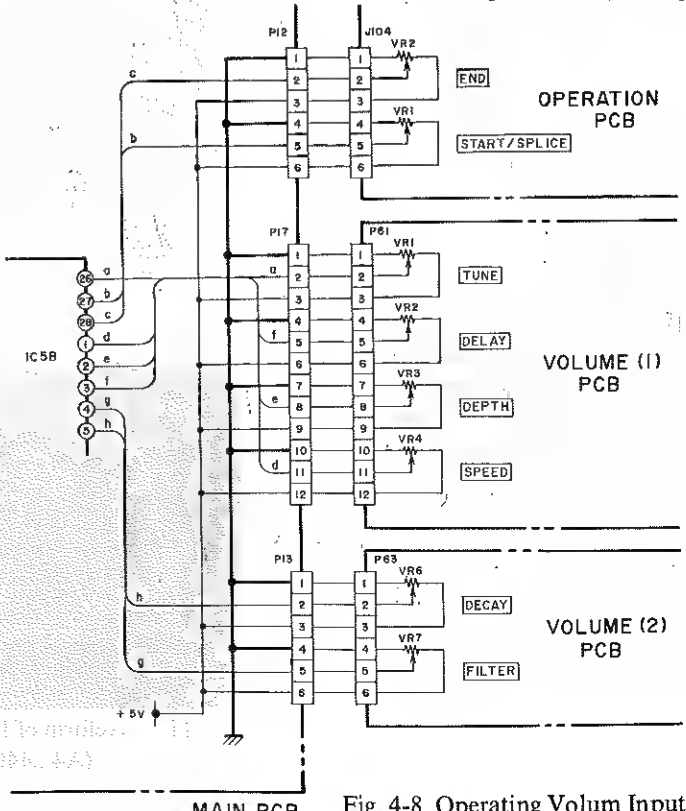

Fig. 4-8 Operating Volum Input Circuit
- 2) By operating the VRs, check to assure the DC levels at IC58 pins 1 to 5 and 26 to 28 to rise in correspondence with the VR positions, and to reach an "H" level (5 VDC) as the VRs have been set at their maximum positions. (See Fig. 4-8)